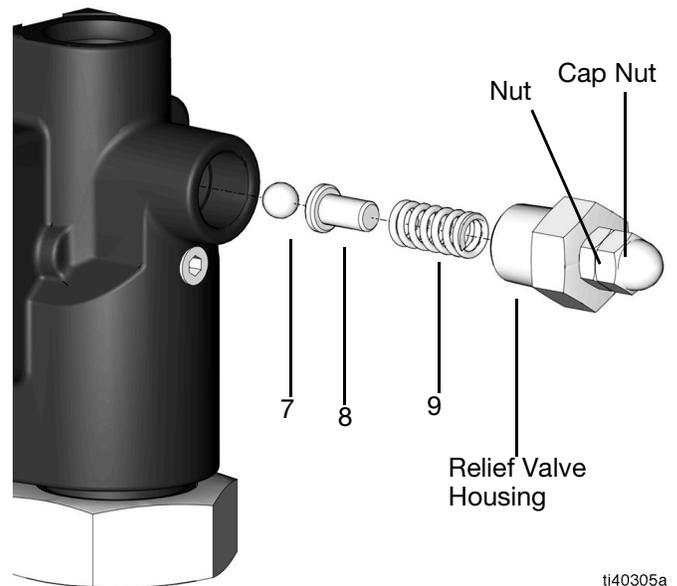

FIG. 34
5. Remove the relief valve housing (FIG. 34).
6. Remove the spring (9) (FIG. 34).
7. Remove the spring guide (8) (FIG. 34).
8. Remove the relief ball (7) (FIG. 34).
1. Place the relief ball (7) into position in the pump housing (see FIG. 34).
2. Replace the spring guide (8) (see FIG. 34).
3. Replace the spring (9) (FIG. 34).
4. Tighten the relief valve housing into the pump housing (FIG. 34).